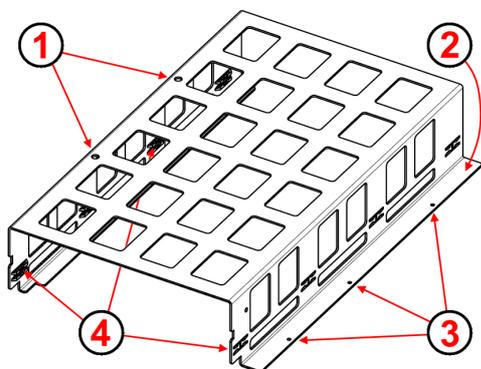
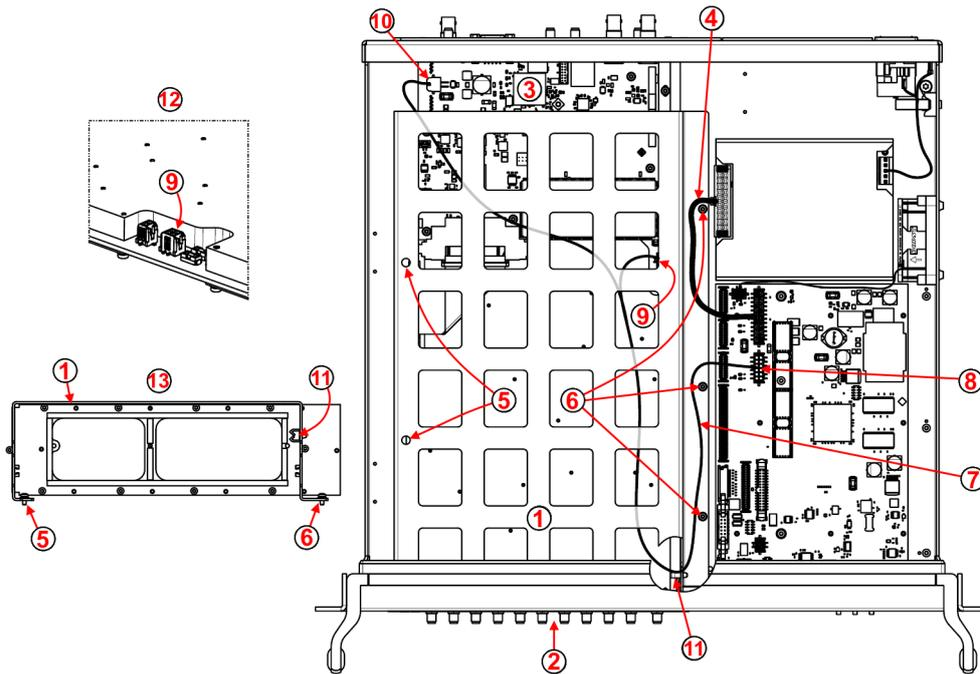

Figure 3-1: Guide cage for holding the module in the switch unit
Figure 3-3: Opened switch unit with guide cage mounted and base module inserted
22. Insert the guide cage into the switch unit's free space, with the protruding flange (item (2) in Figure 3-1) directed towards the switch unit's power supply and control board, as in Figure 3-3.
23. Screw the guide cage to the switch unit's base plate (5 cylinder-head screws, type Torx M2.5x6, included in the delivery), items (1) and (3) in Figure 3-1 or (5) and (6) in Figure 3-3.
24. Connect the 4-pole connector at the short end of cable W20 (4 wires, red/black/black/gray) to the power input connector X201 of the module's RF board, item (9) in Figure 3-3.
25. Connect the 4-pole connector at the long end of cable W20 (2 wires, brown/black) to the power input connector X203 of the module's data acquisition board, item (10) in Figure 3-3.
26. In the open front panel of the switch unit, place the module's rear end just into the guiding structure elements of the guide cage, as shown in Figure 3-3.
29. Connect the 12-pole connector of cable W20 to connector X12 on the switch unit's control board, item (8) in Figure 3-3.
31. Fix the middle part of cable W20 by using the cable holder close to the front of the switch unit, item (11) in Figure 3-3.
32. Push the module all the way into the switch unit, until the module's cover panel is level with the switch unit (item (2) in Figure 3-3).